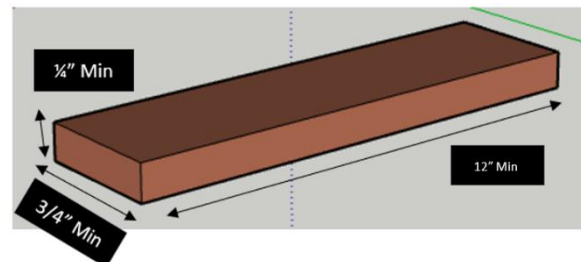

Figure 26.
7. The planer table assembly is affixed to the cabinet using four Hex Bolts (#184, FIG. 26, A). Adjacent to these bolts are four Hex Socket Screws (#180, B), which are adjustable to elevate an end of the planer table to achieve parallelism with the cutterhead.
Please consult Figures 26 and 28 to verify that your workpiece dimensions follow the specified minimum requirements before commencing machine operations. This precautionary measure is vital for maintaining operational safety and the integrity of both the workpiece and the machine.